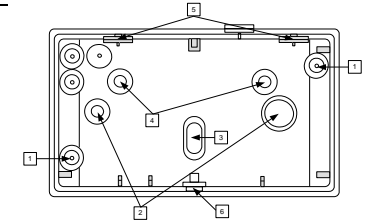

Fig 7: Wireless GBR Mounting Knockouts
2. Open the required mounting knockouts, according to the type of installation (corner, flat or swivel mounting, see Fig. 7).
4. If a back tamper protection is required open the back tamper knockout (3, Fig. 7).
2. Open the swivel mounting adaptor knockouts (4, Fig 7).